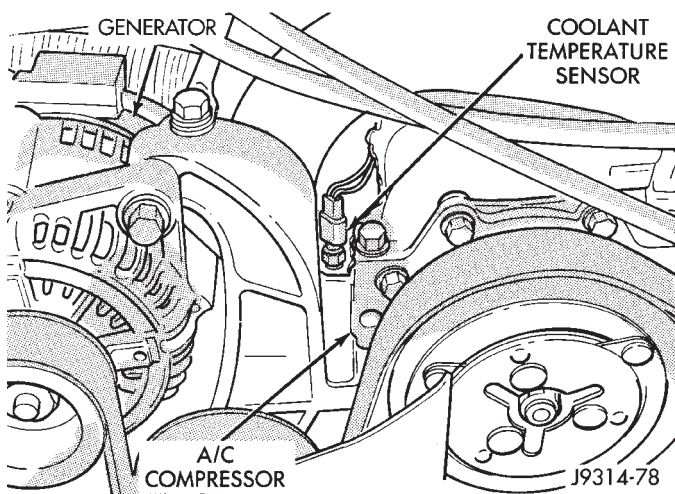

Fig. 87 Engine Coolant Temperature Sensor—5.2L/5.9LEngines
- (1) Partially drain cooling system. Refer to Group 7, Cooling.
- (2) Disconnect electrical connector from sensor (Fig. 87).
- (3) **Engines with air conditioning:** When removing the connector from sensor, do not pull directly on wiring harness. Fabricate an L-shaped hook tool from a coat hanger (approximately eight inches long). Place the hook part of tool under the connector for removal. The connector is snapped onto the sensor. It is not equipped with a lock type tab.
- (4) Remove sensor from intake manifold.